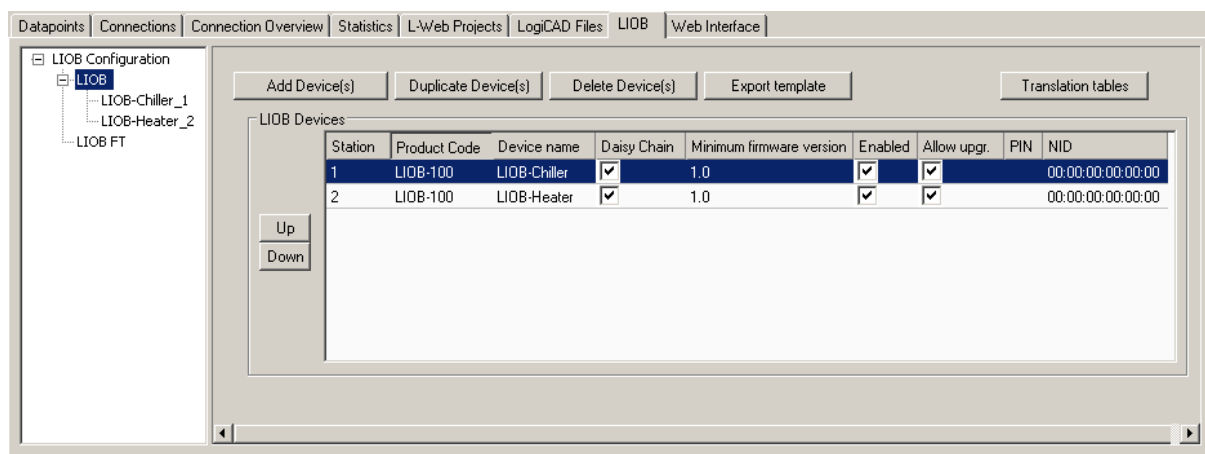

Figure 29: Add L-IOB devices to the LIOB Connect bus.
- Add L-IOB devices on the **LIOB** tab from the supplied L-IOB templates using the **Add Device(s)** button as shown in Figure 29.